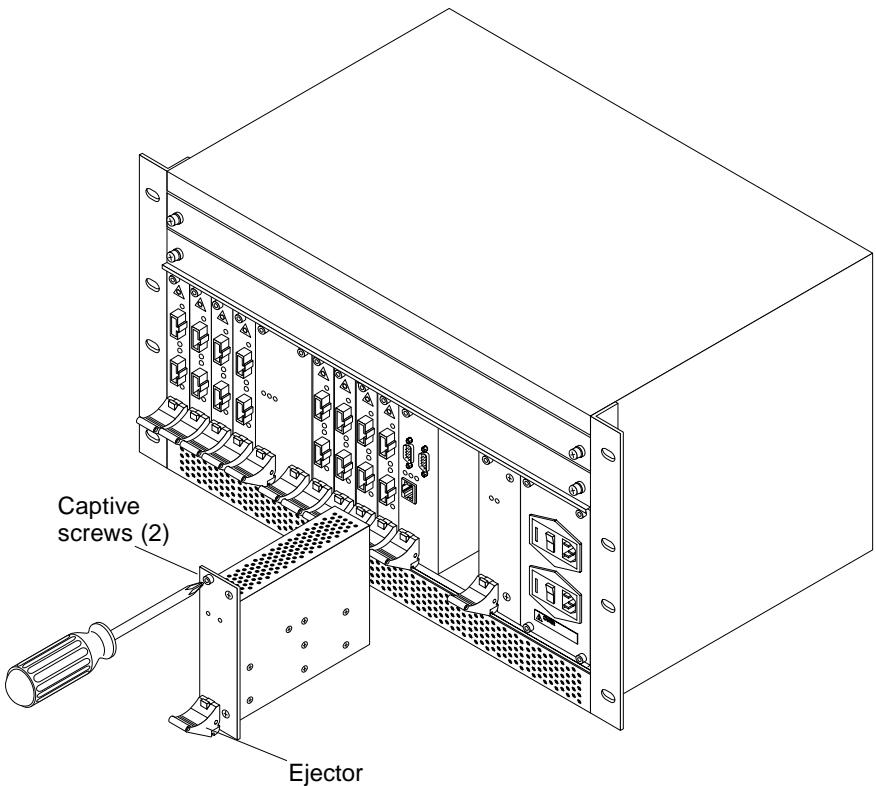

FIGURE 4-3 Replacing a Sun Fire Link Power Supply Module
3. Loosen the captive screws at the top and bottom of the module (FIGURE 4-3).
- 2. Unlock the module ejector by depressing the ejector red button (FIGURE 4-3).**